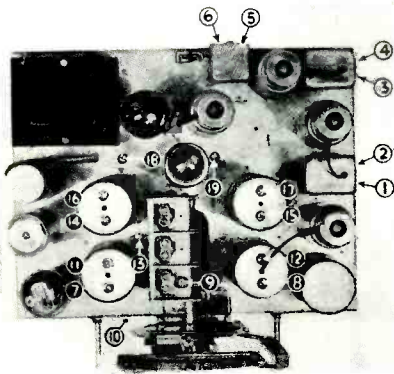

Fig. 3. View of the R-126 chassis, showing location of trimmers and padders.
In Fig. 3 is shown our now well-understood radio-wave field, which in this case will be assumed to represent the undesired noise. Suppose that passing through it is a simple pair of conductors. The conductors are so disposed with respect to the field as would, if they were to be used as an antenna, give maximum noise interception. In such a case the signal voltages induced in each of the two conductors are in exactly the same direction, and of precisely equal magnitude, and in this fact lies the clue to the elimination of their influence.
Practically all the adjustments can be made from the top of the chassis. In the illustration of Fig. 3, the points marked (1) and (2) are the trimmers for the first i-f transformer. (3) and (4) are the trimmers for the second i-f transformer, while (5) and (6) are the trimmers for the third i-f transformer. The other trimmers indicated are the adjusters on the first detector and oscillator coils and are as follows: